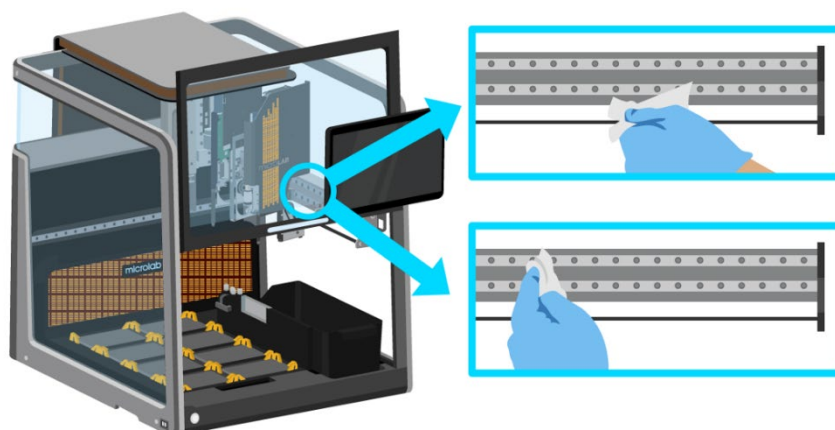

Figure 6-11: Cleaning the pipetting arm's lead screw and rails
- a. Remove the two red screws indicated in Figure 6-11 using the 2 mm wrench included with the Prep. The screws are in the same location in both the front and rear pipetting head.